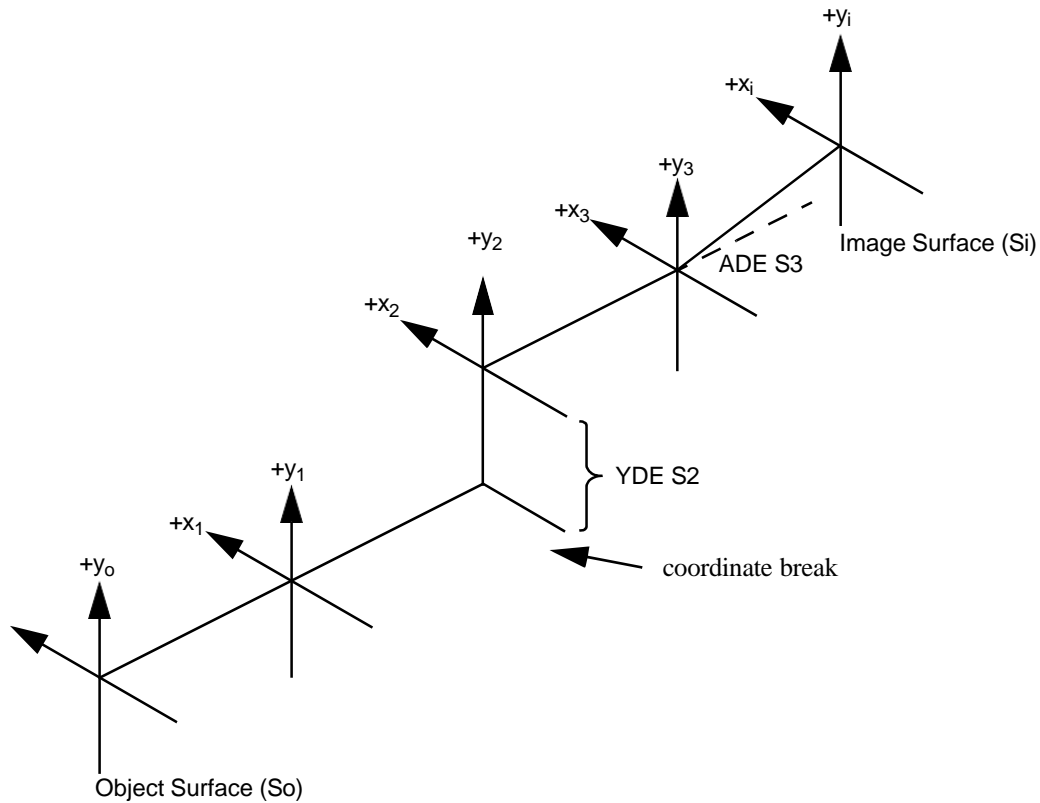

Figure 2. Decentered system (surface 2 decentered, surface 3 tilted)
In Figure 2, surface 1 is not decentered, surface 2 has a Y-decenter (YDE) only, and surface 3 has only a positive  $\alpha$  tilt (ADE). The image surface is not decentered relative to the previous surface (3), but it obviously is both tilted and decentered relative to the object surface. Thus decentered surfaces have a cumulative effect in the total system.